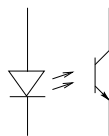

Figure 5.11: Optocoupler.
*Optocouplers* combine some of the features of transistors and relays and are used for example in solid-state relays. The idea is to use a LED instead of the electro-mechanical relay's coil, and to use a phototransistor instead of the switch, see Figure 5.11. Hence, the optocoupler has no electric connection between the microcontroller and the load while still offering the high switching frequency of a transistor.